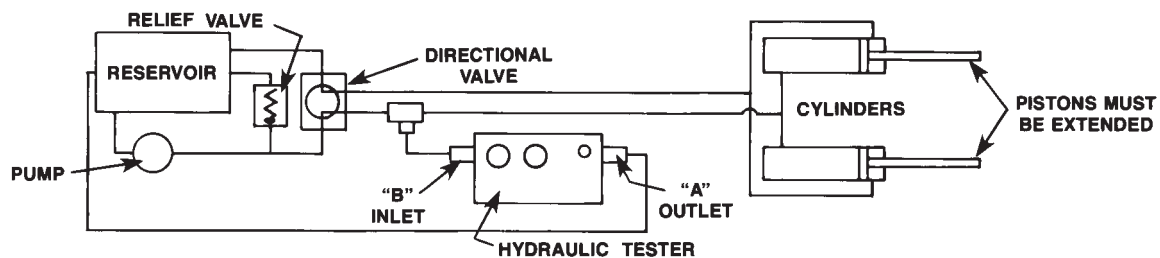

Figure 7
**TESTING WITH A TEE CONNECTION** (See Figure 7)